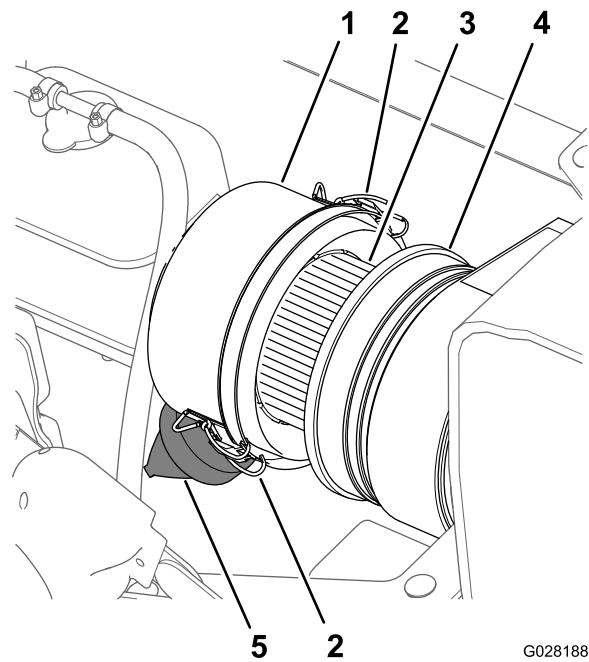
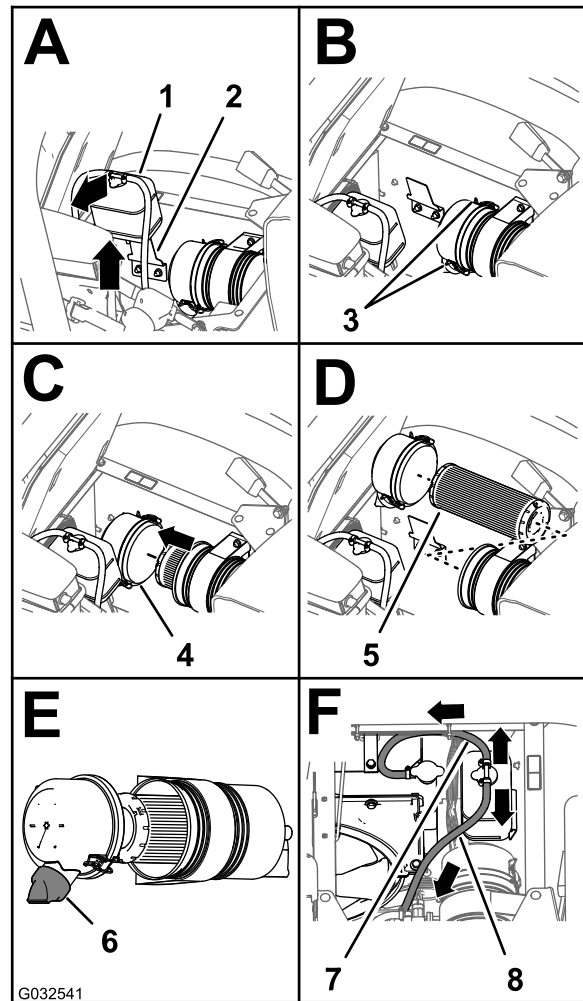

Figure 67
Figure 68
- Clean the dust cap and air-cleaner body (Figure 67).
- Check the air-cleaner body for damage that could cause an air leak (Figure 67).
- Squeeze the dust valve to clear it of dirt, dust, and debris (Figure 67).
- Check the air-filter element for excessive accumulation of dust, dirt, and debris (Figure 67).
8. Install the dust cap onto the air-cleaner body and secure the cap with the 2 latches (Figure 67).
2. Clean the dust cap and air-cleaner body (Figure 67).
3. Lift the coolant-overflow tank up and off the tank-support bracket (Figure 68).
4. Loosen the 2 latches that secure the dust cap to the air-cleaner body (Figure 68).
6. Clean the inside of the dust cap, air-cleaner body, and dust valve with a damp rag (Figure 67 and Figure 68).
7. Insert the air-filter element into the air-cleaner body (Figure 68).
8. Install the cover onto the air-cleaner body and secure the cover with the 2 latches (Figure 68).
**Note:** Ensure that the dust valve is aligned between the 5 to 7 o'clock position when viewed from the end (Figure 68).
9. Align the coolant-overflow tank to the tank-support bracket and seat the tank firmly (Figure 68).
**Important:** Ensure that the pressure-relief hose is routed forward and down, and the tank-vent hose is routed rearward as shown in Figure 68.